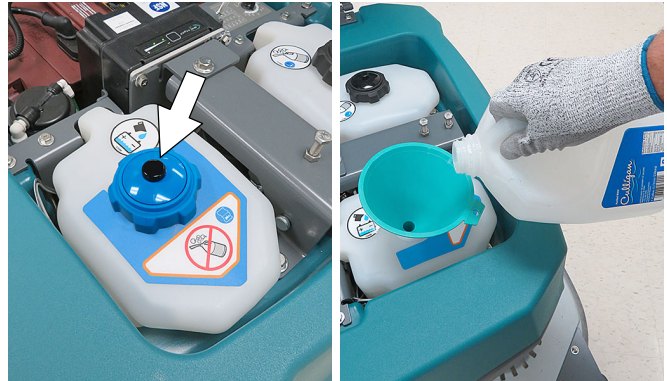

FIG. 114
- Automatic battery watering option - Refill tank with distilled water (Figure 114). Replace cap.